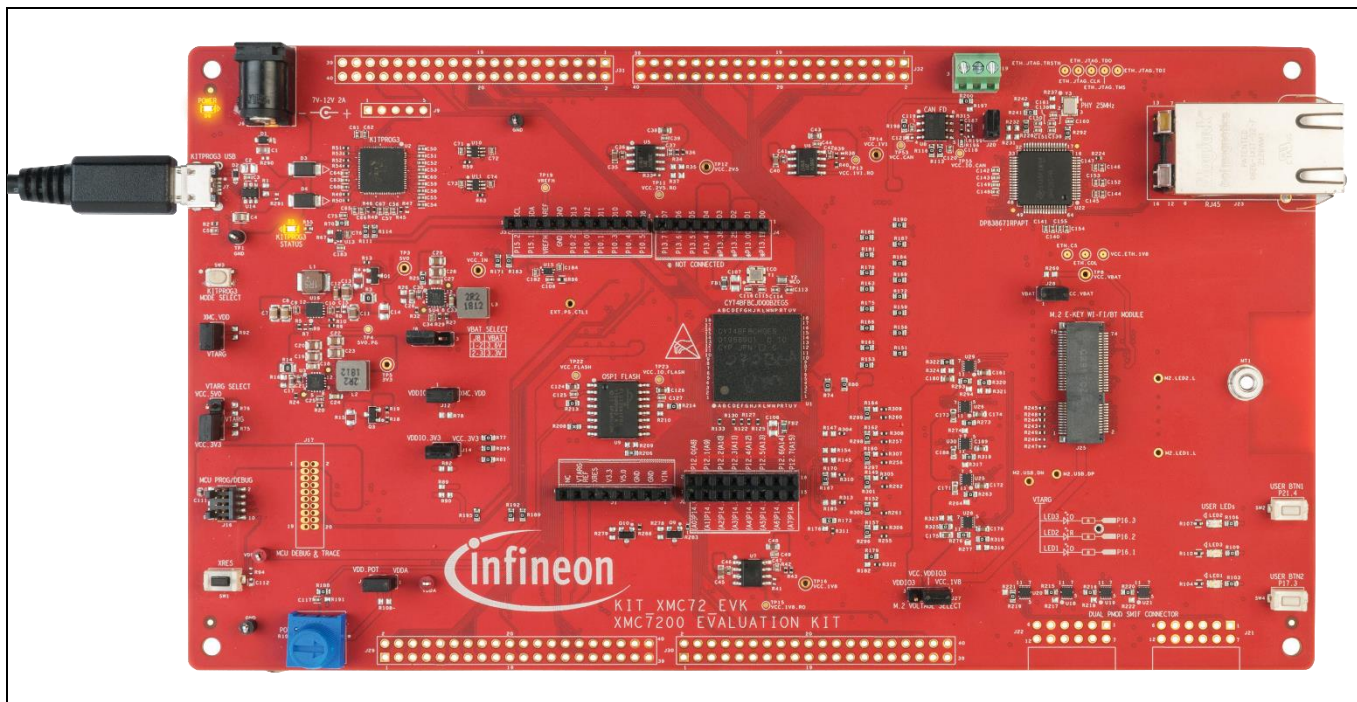

Figure 8 Connect USB cable to USB connector on the board
1. Connect the board to the PC using the provided USB cable through the KitProg3 USB connector, as shown in Figure 8. It enumerates as a USB Composite Device if you are connecting it to your PC for the first time.